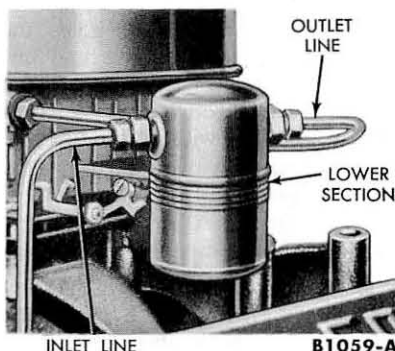

FIG. 7—292 and 302 HD V-8 Fuel Line Filter Installation
8. Replace Fuel System Filter Element—HD V-8 Engines. On a 292 or 302 HD V-8, unscrew the lower section of the filter, and remove it, the filter element, and the gasket (Fig. 7). Discard the filter element. Clean the lower section in solvent. Place a new filter element in the lower section. Place a new gasket in the upper section and screw the lower section firmly into the upper section. Start the engine, and check for leaks.